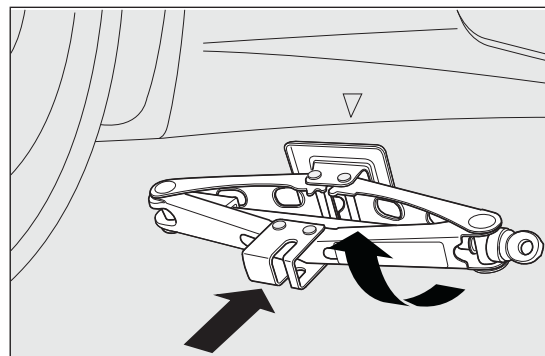

fig. 99
- ☐ if the vehicle is equipped with side skirts, to let the jack pass under the vehicle, the latter must be tilted (as shown in fig. 99);